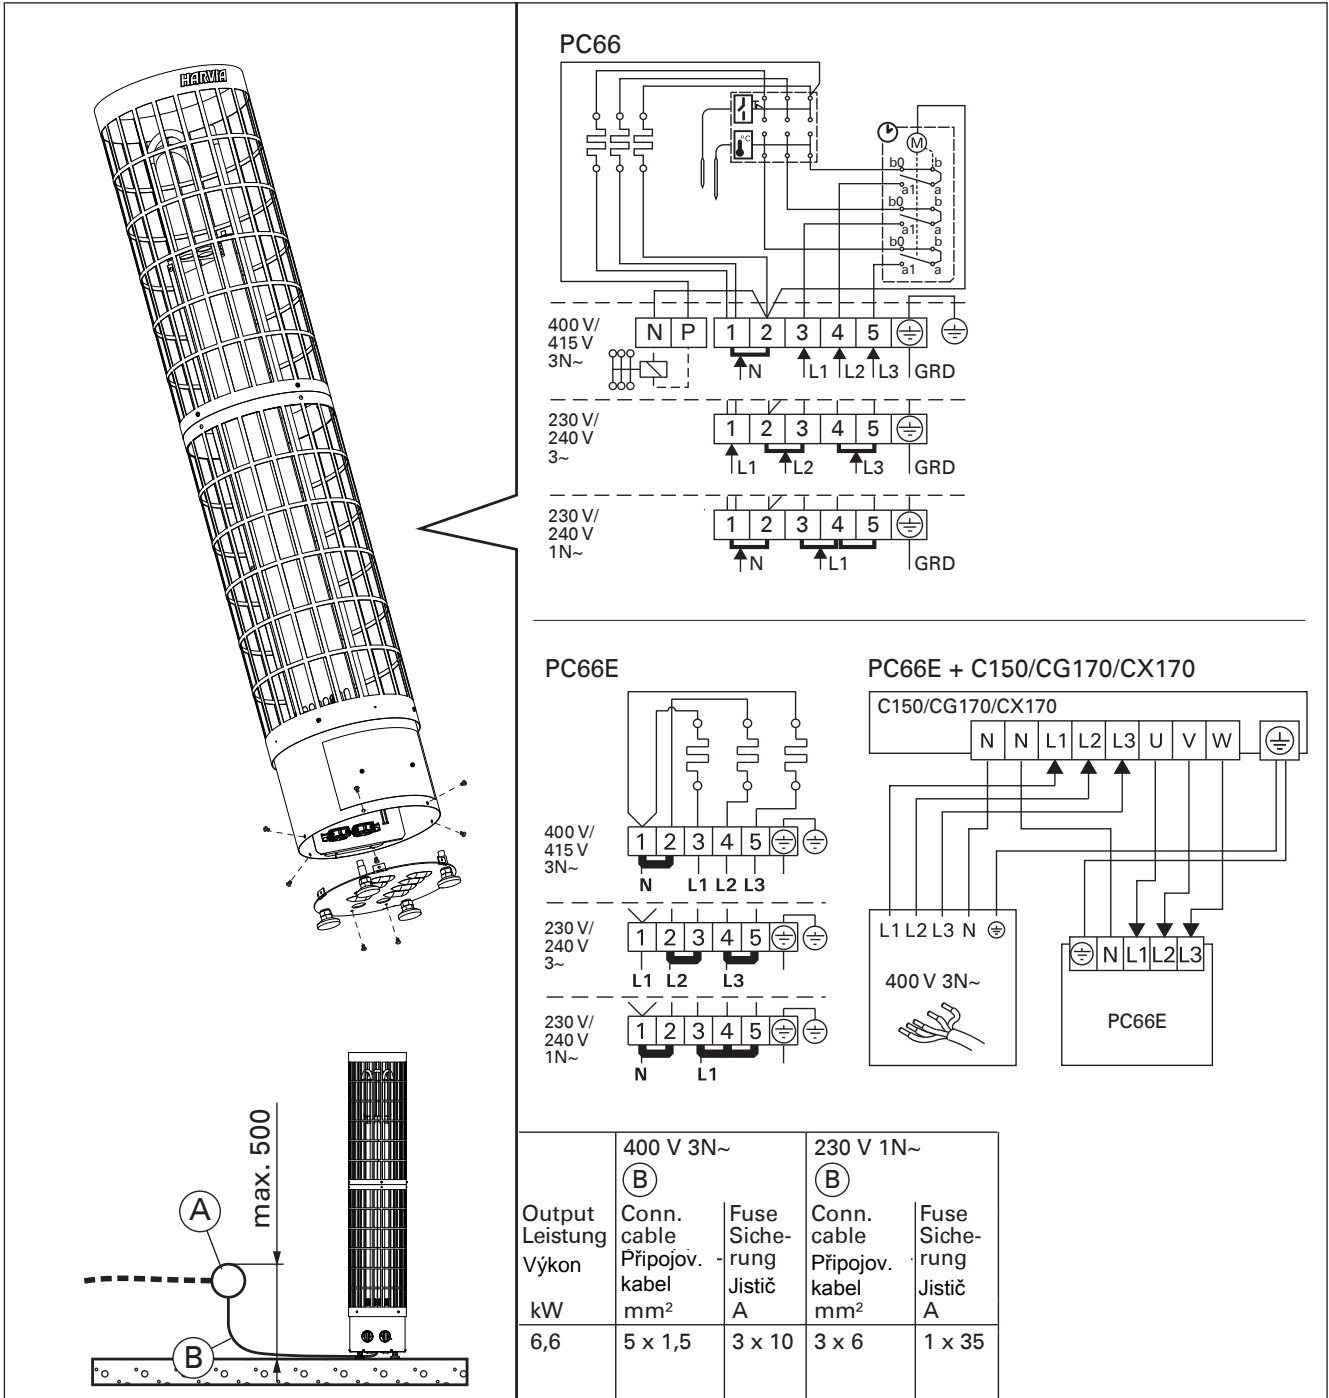

Figure 8. Electrical connections
- The heater is semi-stationarily connected to the junction box (figure 8: A) on the sauna wall. The junction box must be splash-proof, and its maximum height from the floor must not exceed 500 mm.
- The connecting cable (figure 8: B) must be of rubber cable type H07RN-F or its equivalent. **NOTE! Due to thermal embrittlement, the use of PVC-insulated wire as the connecting cable of the heater is forbidden.**
- PC66: In addition to supply connectors, heater is equipped with a connector (P), which makes the control of the electric heating possible (figure 8). Voltage control is transmitted from the heater when it is switched on. The control